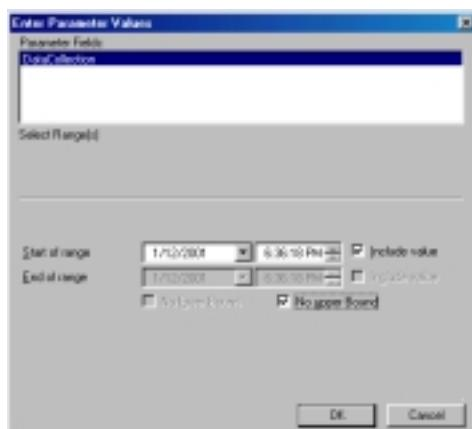

Figure 10.15 Date Range Window
2. A window specifying a date range will appear (Figure 10.15). Enter the beginning and ending collection dates for the desired report. Select the “No upper Bound” option to view a report containing all transactions since the “Start of range” field value or select the “No lower Bound” option to view a report containing all transactions leading up to the “End of range” value.